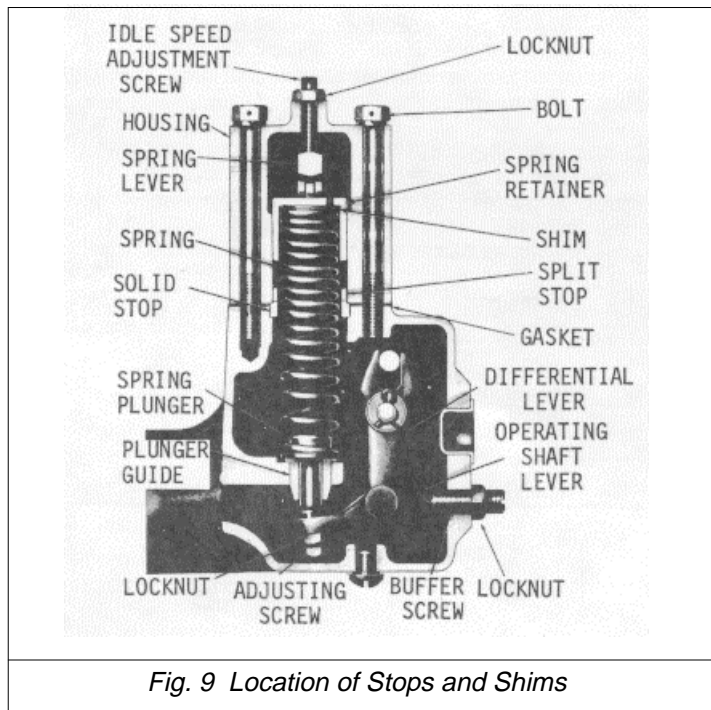

Fig. 9 Location of Stops and Shims
- (2) Remove the variable speed spring housing and the variable speed spring plunger from inside the spring housing.
- (3) Refer to Table I and Fig. 9 and determine the stops or shims required for the desired full-load speed for engines with four valve cylinder heads.